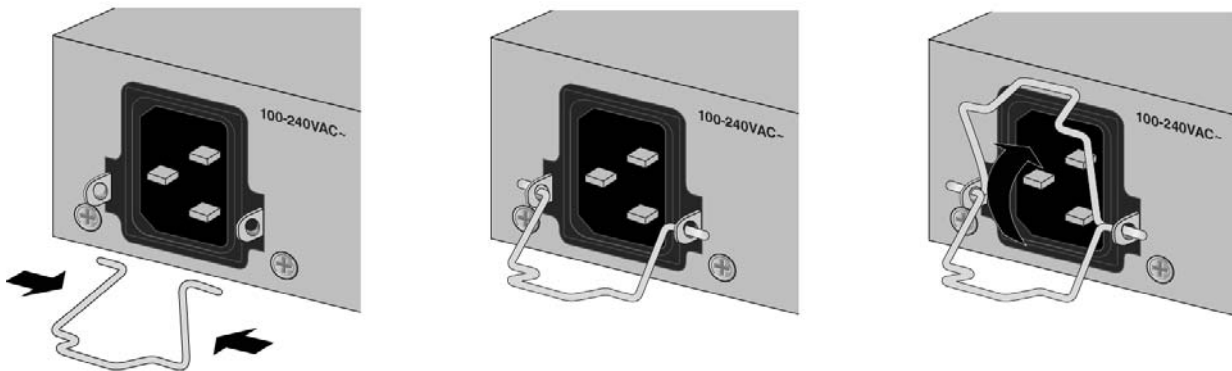

Figure 39. Installing the Power Cord Retaining Clip
1. Install the power cord retaining clip on the AC power connector on the rear panel of the switch. Refer to Figure 39.